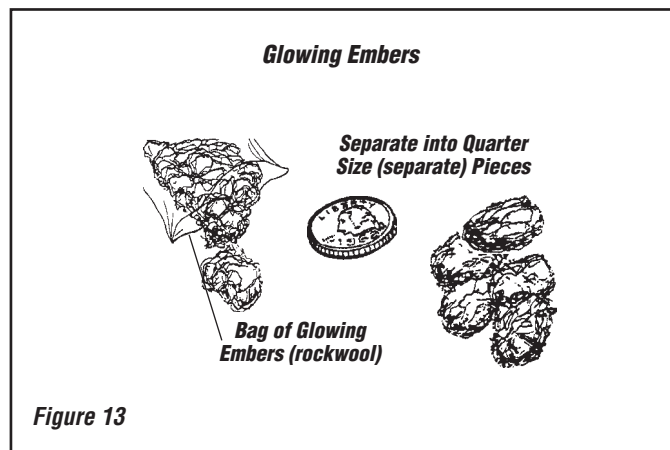

Figure 13
Step 1. Separate the Glowing Embers (Rockwool) into pieces about the size of a quarter (*see Figure 13*). Keep the pieces fluffed up, not matted.